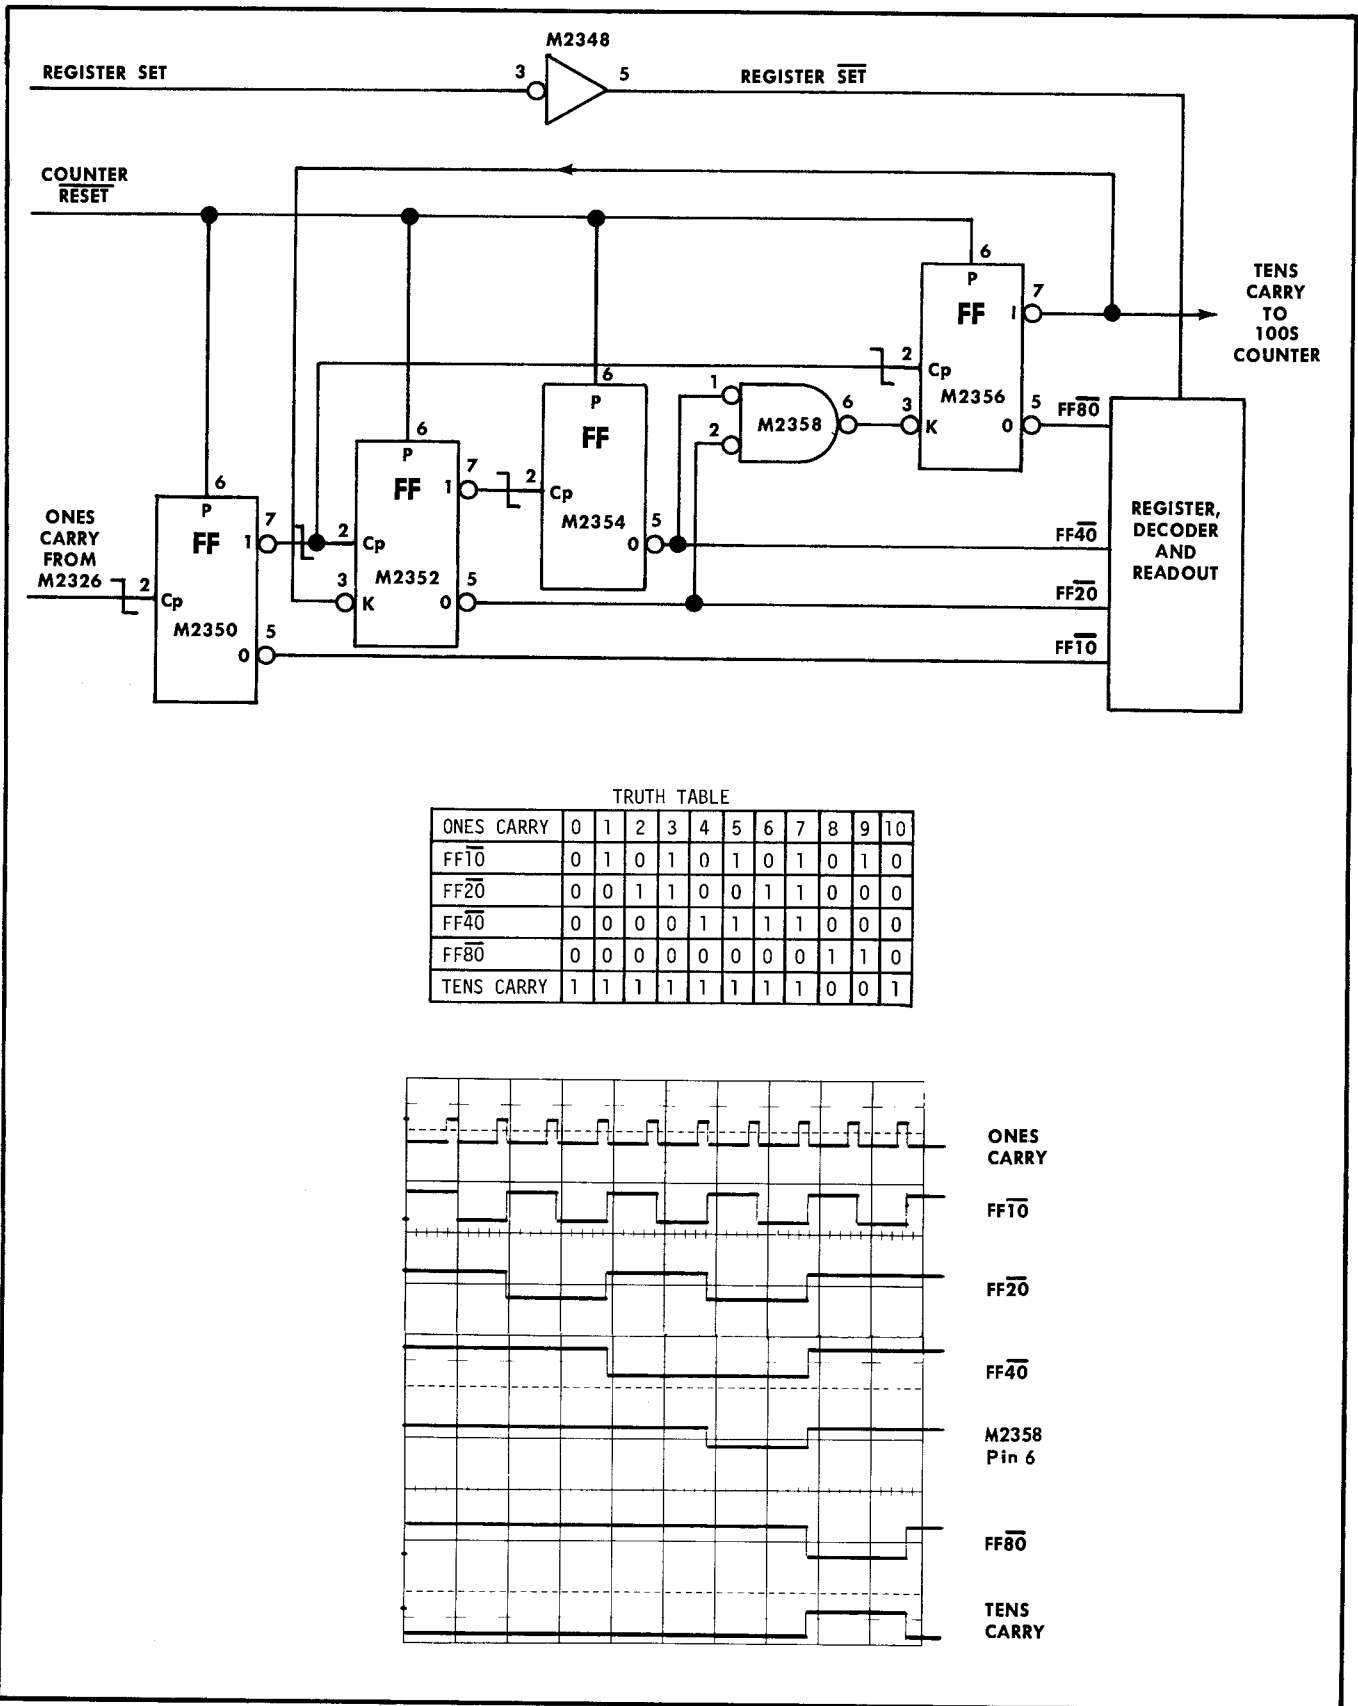

Fig. 4-39. Ten's Counter.
**Tens Counter.** Operation of the tens counter (see Fig. 4-39) is similar to that of the ones counter except that the flipflops switch on the negative-going trailing edge of a positive pulse.